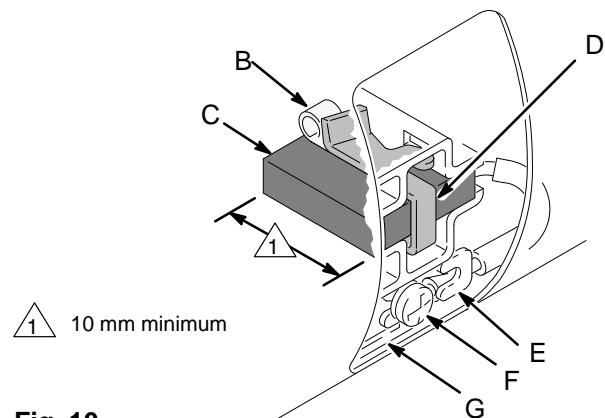
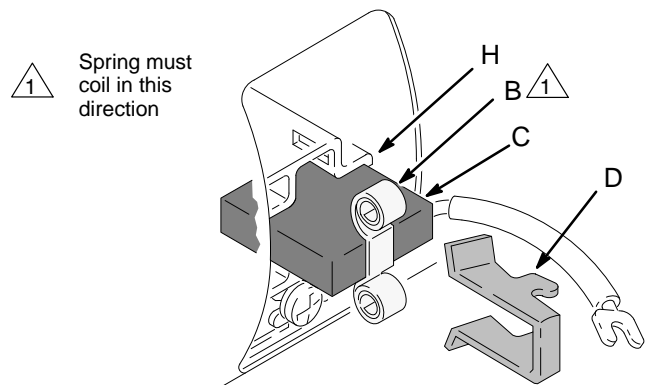

Fig. 10 01227
Fig. 11 01227
NOTE: Replace the brushes when they have worn to less than 10 mm. See Fig. 10. Always replace both brushes at the same time. A Brush Repair Kit, p/n 222-157, and spring clip, p/n 110-816, are available.
3. Loosen the terminal screw (F). Pull the brush lead (E) away, leaving the motor lead (G) in place. Remove the brush (C) and spring (B). See Fig. 10.
5. Install the new brush (C) so its lead is in the long slot (H) of the holder. See Fig. 11. Slide the terminal (E) under the terminal screw washer. Make sure the motor lead (G) is still connected at the screw. Tighten the screw (F). See Fig. 10.
6. Place the spring (B) on the brush as shown in Fig. 11. The spring must coil as shown.
7. Push in and hook the spring clip (D). See Fig. 11.